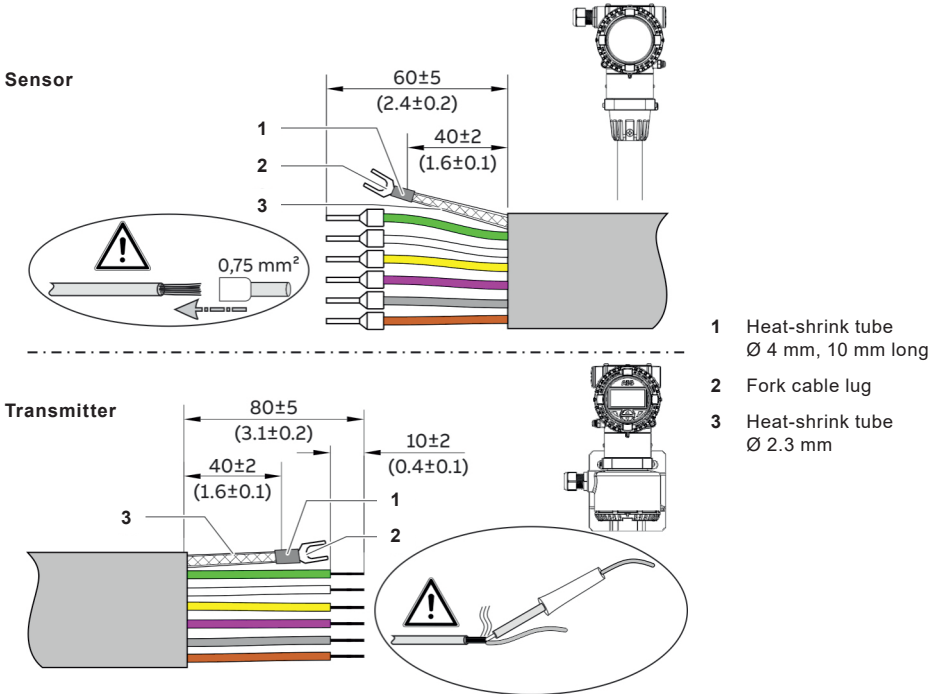

Fig. 31 Signal cable, dimensions in mm (")
The signal cable can also be cut to any length. Then the cable ends must be prepared as shown in Figure 31.
- Produce the signal cable in accordance with the specification (see Figure 31).